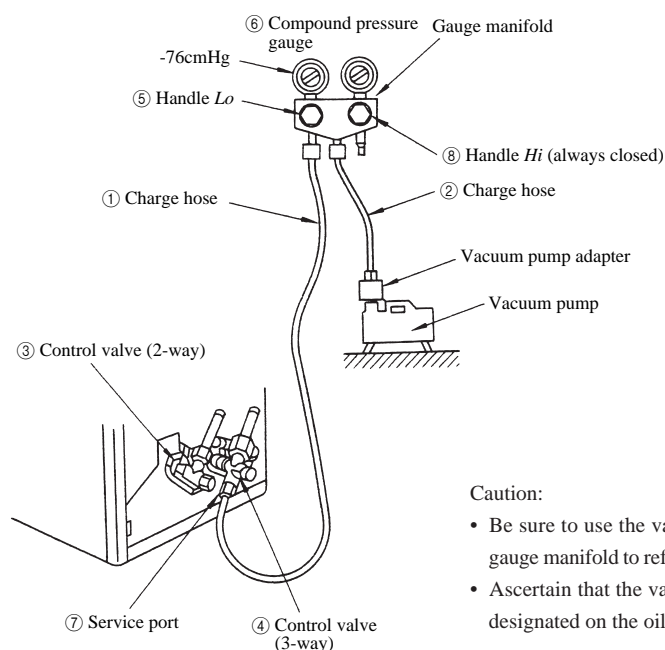

Fig.6 Configuration of air purge by vacuum pump
- (1) Air purge by vacuum pump and gas leakage inspection (see Fig. 6)
- a) Connect the charge hose to the outdoor unit. ①
- b) Connect the charge hose to the vacuum pump adapter. ②